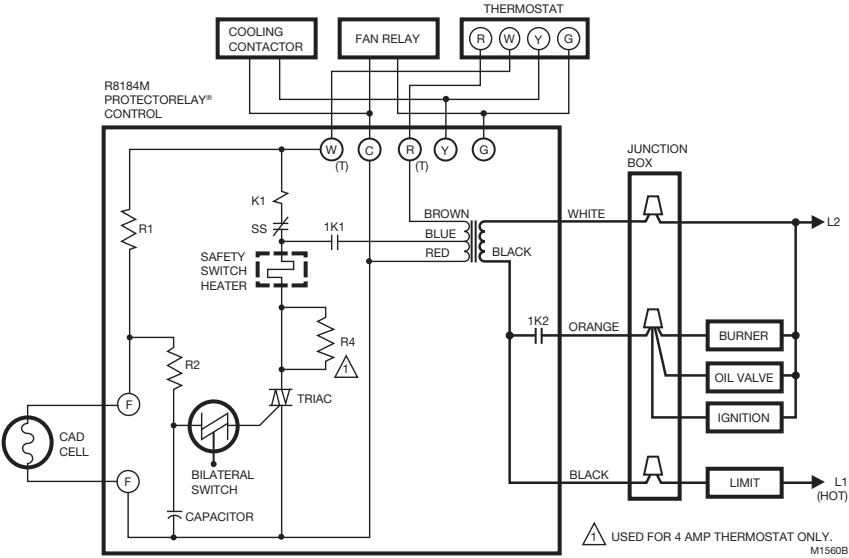

Fig. 6. Typical hookup for R8184M.
- R8184M—connect the cad cell leads to the F-F terminals and connect remaining low voltage wiring as shown in Fig. 6.
- R8184P hydronic hookup. Connect the cad cell leads to the F-F terminals. See Fig. 6.